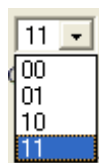

Figure 3-42
- (1) Click the network by mouse, CPVCS can select to the specified network.
- (2) Click the network switch by mouse, CPVCS can select the specified network.
- (3) Click the mouse, a menu as Figure 3-42 will show up. Users can select the specified switch network.